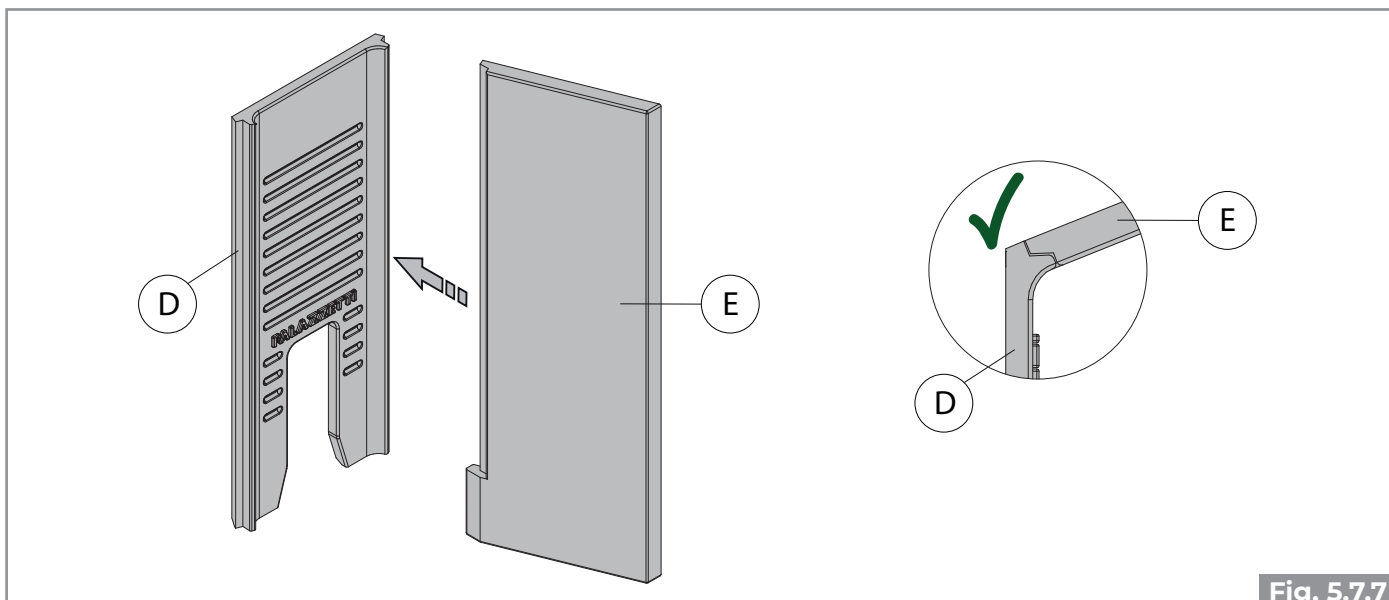

Fig. 5.7.7
- Bring together the bottom wall D and the right wall E by aligning the slots (Fig. 5.7.7) and insert them together inside the combustion chamber ensuring that: